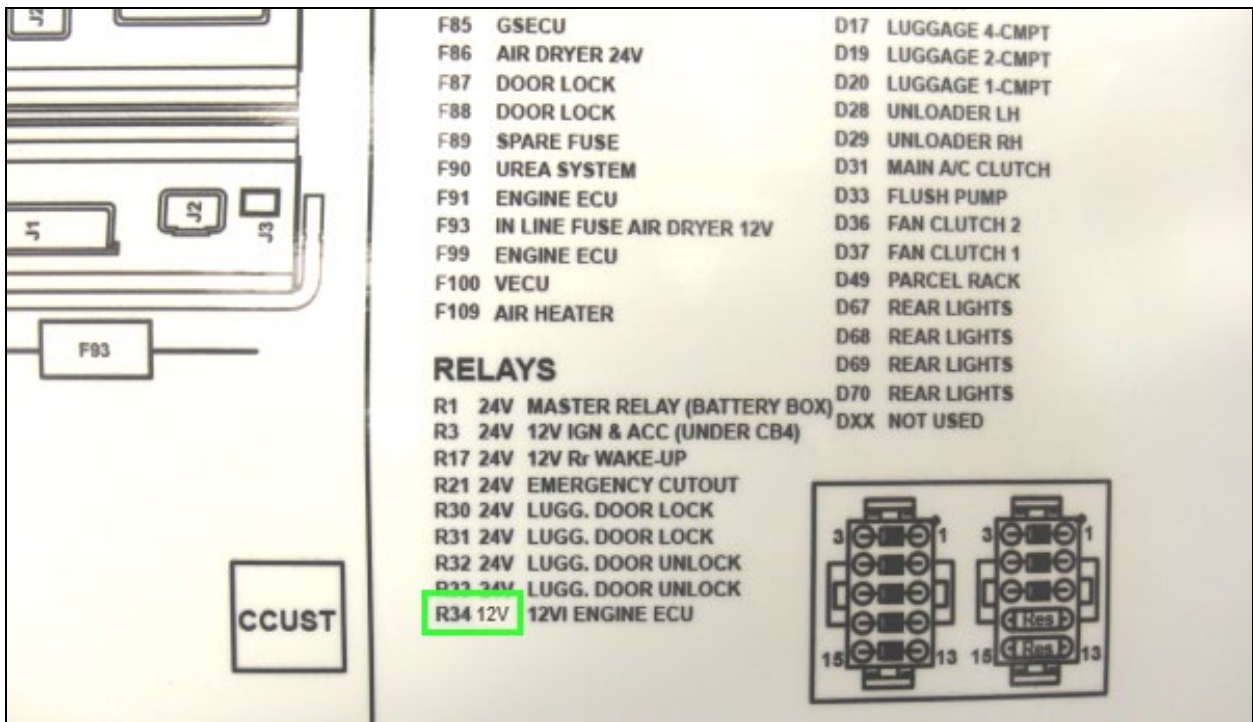

Fig.3 R34 Relay incorrect 12V information (X3-45 Coach Shown).
2. On the decal lower right corner, validate that the R34 relay description is inaccurate (Fig.3) and identifies the relay as being a 12 volt relay (12V) instead of a 24 volt (24V).